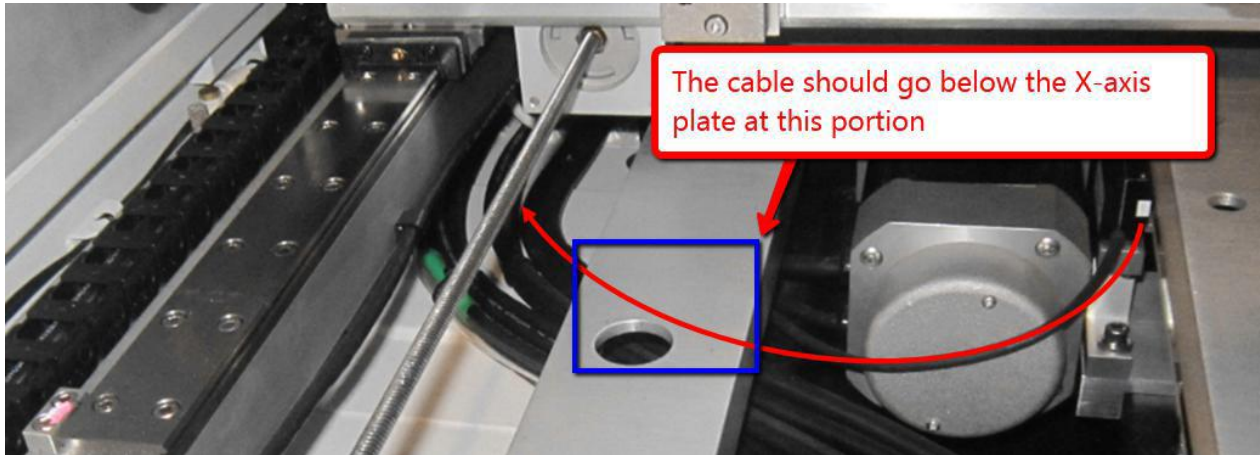
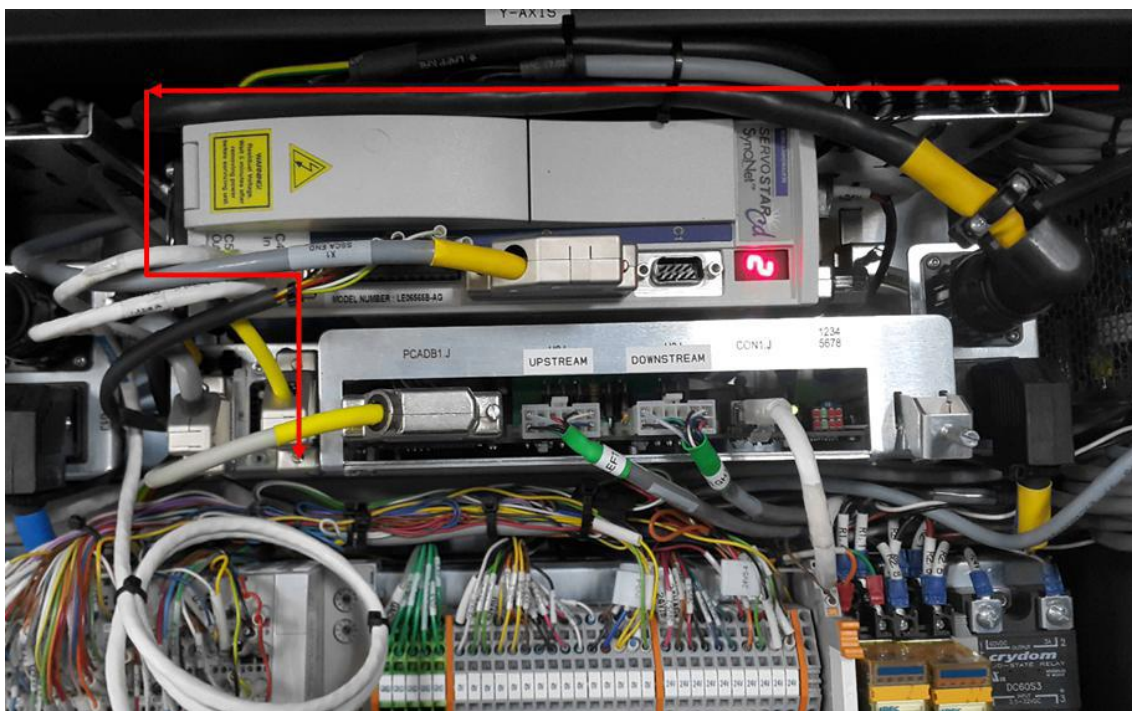

Figure 17 Read Head Encoder Routing
Figure 20 Cable Routing (Read Head Encoder inside SSCA)
14. Route the cable as shown in Figure 17 to Figure 20